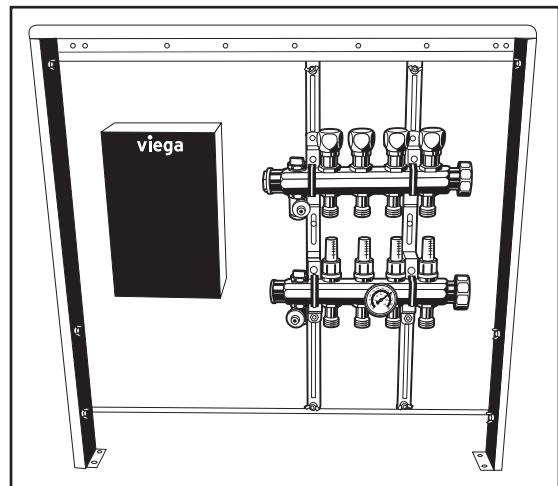

Figure 2a
3. Adjust the location of the manifold with the adjustable rails, making sure the manifold aligns with the holes on the side of the manifold cabinet. If a zone control is to be used; position your manifold to the right, leaving room for the zone control. See Figure 2a